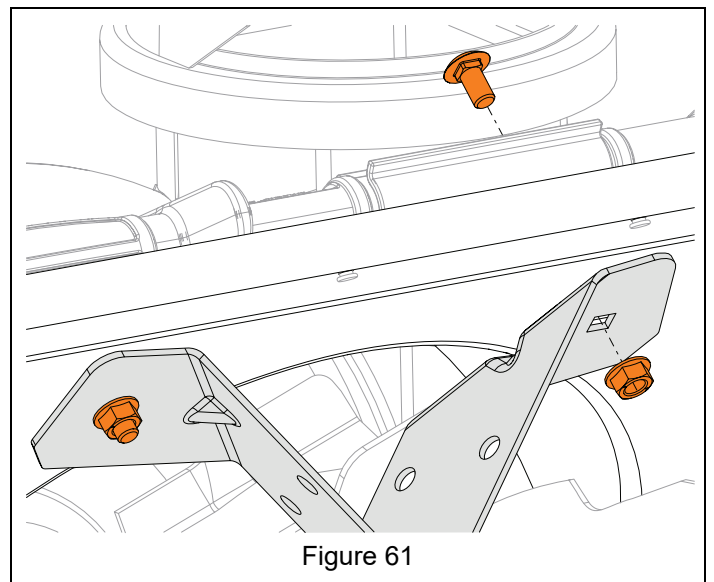

Figure 61
6. Secure support brackets to auger housing with original round head square neck bolts and top locking flange nuts. See Figure 61.